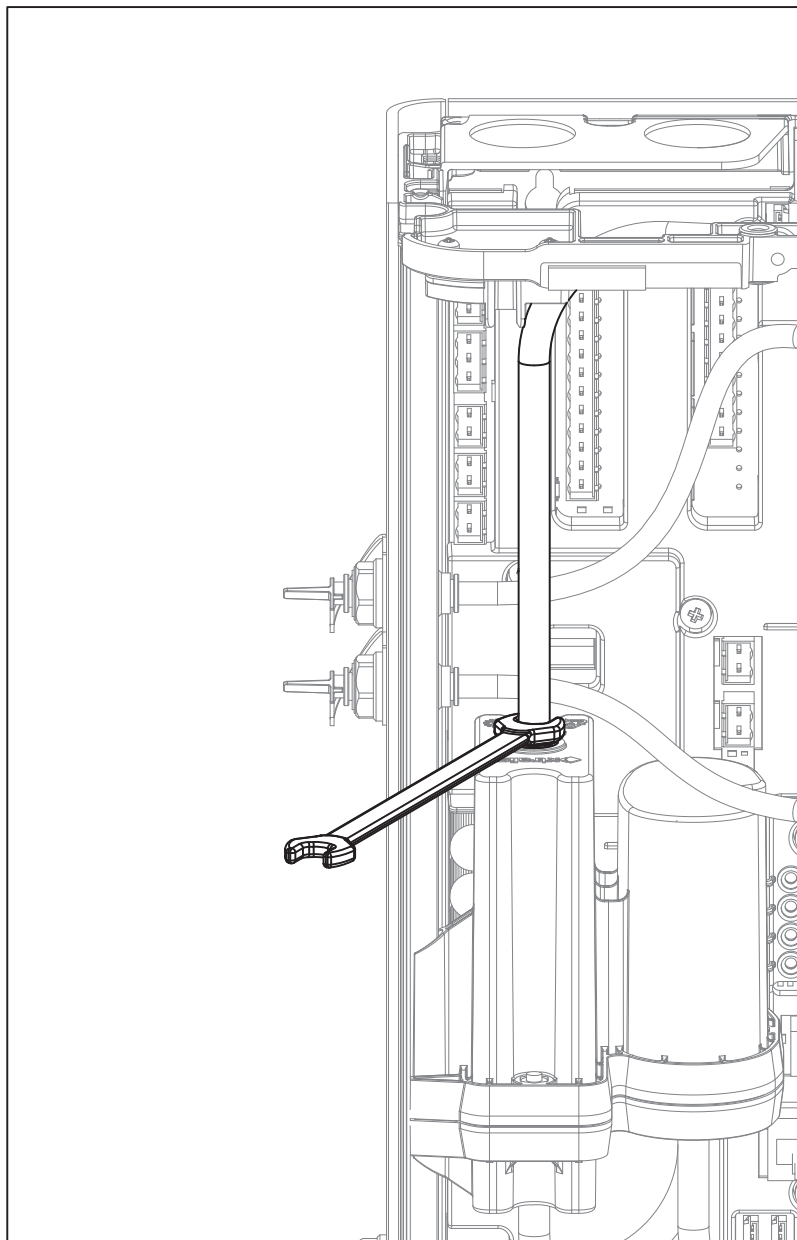

Figure 7-28: Remove the pipe
6. Remove the pipe (Figure 7-28).